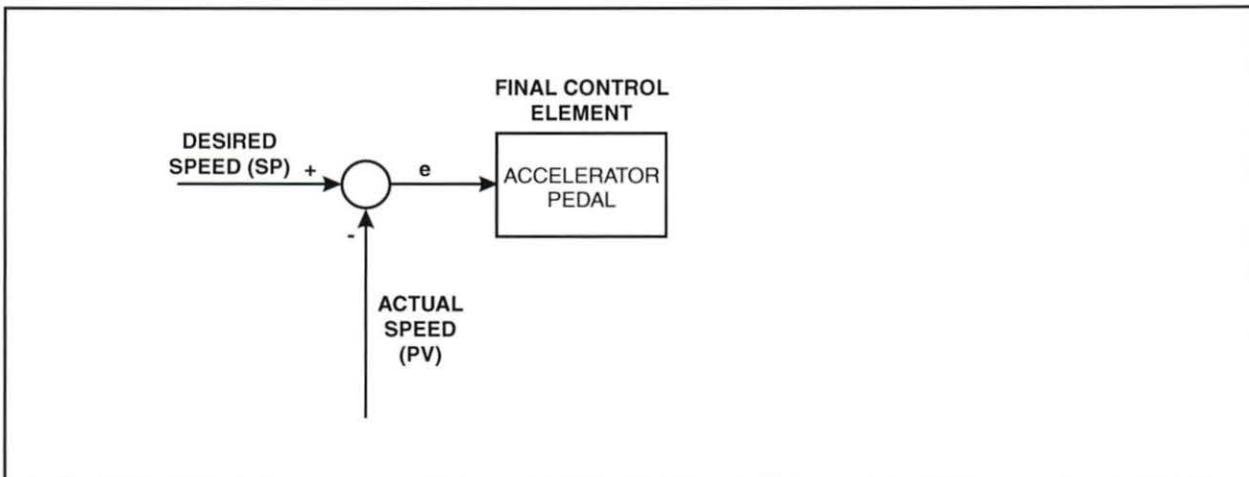

Figure 9. Rectangle to Indicate the Final Control Element (Accelerator Pedal)
- C. Draw a rectangle to the right of the circle to represent the final control element (accelerator pedal), as shown in figure 9. In addition, draw the flow line from the output of the comparison circle to the final control element. This flow line represents the error between the desired speed and the actual speed.